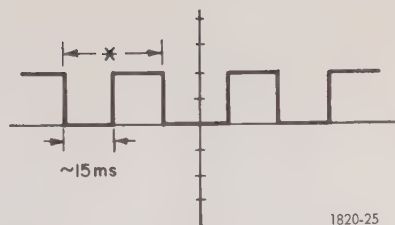

Figure 4-1. The print-command pulse.
c. Connect the oscilloscope probe to pin A2 of the DATA OUTPUT socket and the oscilloscope ground to the low input terminal of the Type 1820-P1. The display shown in Figure 4-1 should appear. The pulse period (*) should be about 33 ms $\pm$ 20%.